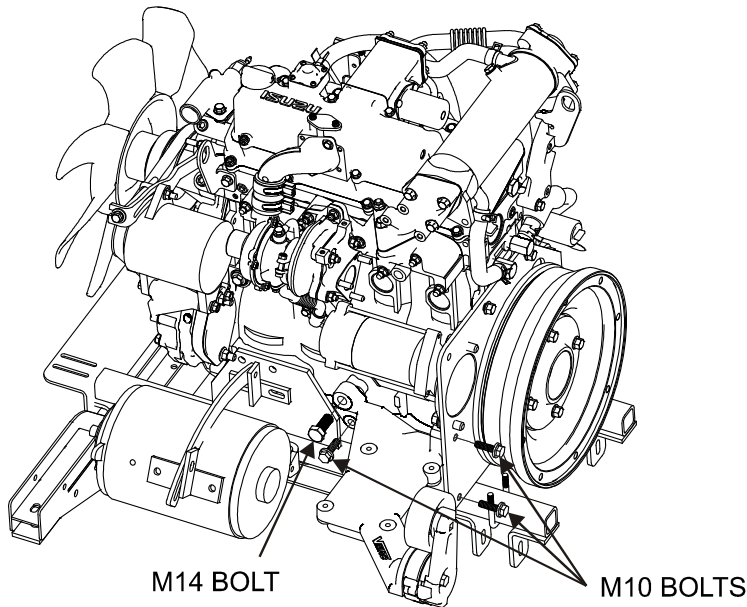

Figure 4.1
- Apply loctite and install the provided M14 bolt in the large hole on the side of the engine (closest to the front of the engine) and one of the M10x 35 mm bolt provided for the mounting point under the M14 bolt. **Do not tighten** (see Figure 4.1).
- Apply loctite and install the 2x M10x35mm bolts through the rear engine plate into the 2 rear mounts on the main bracket under the mounting bolts for the starter, (see Figure 4.1). Tighten these bolts and tighten front mounts (M14 and M10 bolts) to specified torques.